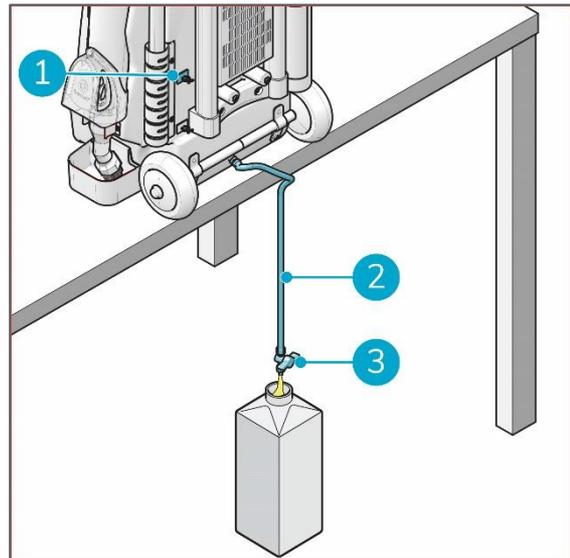

Figure 25
2. Release the drainage tube (Figure 25, pos 2) via the clips (Figure 25, pos 1).
5. Open tap (Figure 25, pos 3).
6. When empty close tap (Figure 25, pos 3).
8. Replace drainage tube (Figure 25, pos 2) using the clip (Figure 25, pos 1).